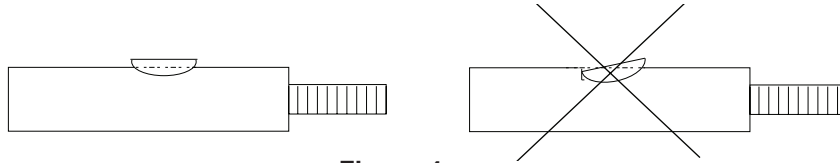

Figure 4
1. Make sure Woodruff key is fully seated and aligned with shaft, as shown in Figure 4.